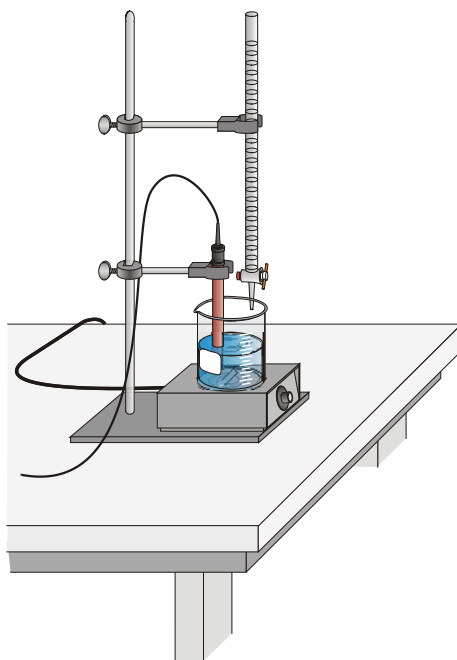

Figure 1
1. Obtain enough 0.02 M  $\text{KMnO}_4$  for about 6 total trials and then standardize it with approximately 0.135 g of oxalic acid dihydrate. Hints: (1) How many trials do you need to do to standardize? (2) Write the balanced redox reaction between oxalate and permanganate. Record your results in your lab notebook.
5. Set up a ring stand, a buret clamp, and a buret to conduct the titration (see Figure 1). Rinse and fill the 50 mL buret with 0.020 M  $\text{MnO}_4^-$  solution. **CAUTION:** *Handle the  $\text{KMnO}_4$  solution with care; it has been mixed with  $\text{H}_2\text{SO}_4$ , which can cause painful burns if it comes in contact with the skin.*
6. Use a utility clamp to suspend the ORP Sensor on the ring stand, as shown in Figure 1. Position the ORP Sensor so that its tip is immersed in the  $\text{H}_2\text{O}_2$  solution but does not interfere with the movement of the magnetic stirring bar. Gently stir the beaker of solution.